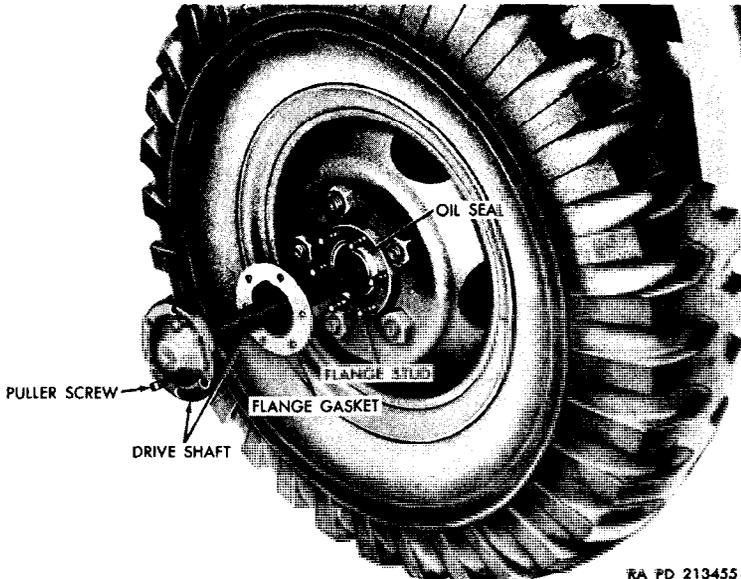

Figure 179. Rear axle drive shaft removal.
a. *Removal* (fig. 179). Both drive shafts are removed in the same manner. It is not necessary to raise the rear axle.
- (1) Mark adjacent spots on the shaft flange and the hub with a center punch.
- (3) If the drive shaft is broken and a piece of the shaft remains in the axle housing, it may be removed by snaring it with a length of wire. If the broken portion cannot be removed, replace the axle (par. 212).
b. Installation (fig. 179).
- (1) If the original shaft is to be installed, clean and inspect it for damaged splines, distortion, or damaged flange surfaces. Clean the gasket surfaces of the flange and the hub.
- (2) Apply a coating of liquid-type gasket cement to both sides of a new flange gasket, and position the gasket over the flange studs.
- (3) Install the drive shaft in the axle housing, engaging the splines in the differential gear and alining the punch marks on the flange and hub (*a*(1) above). (Disregard the punch mark on the hub when installing a new shaft.)
- (4) Install the six $\frac{3}{8}$ -inch lockwashers and $\frac{3}{8}$ -24NF nuts on the flange studs. Tighten the nuts to 30–35 pound-feet torque. Install the nuts on the two puller screws, install the screws in the flange, and tighten the nuts.